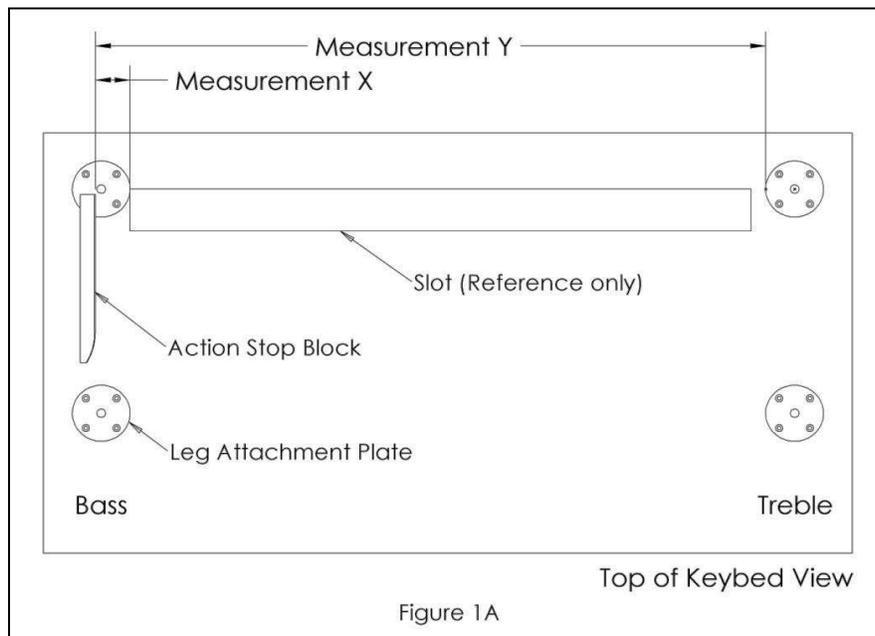
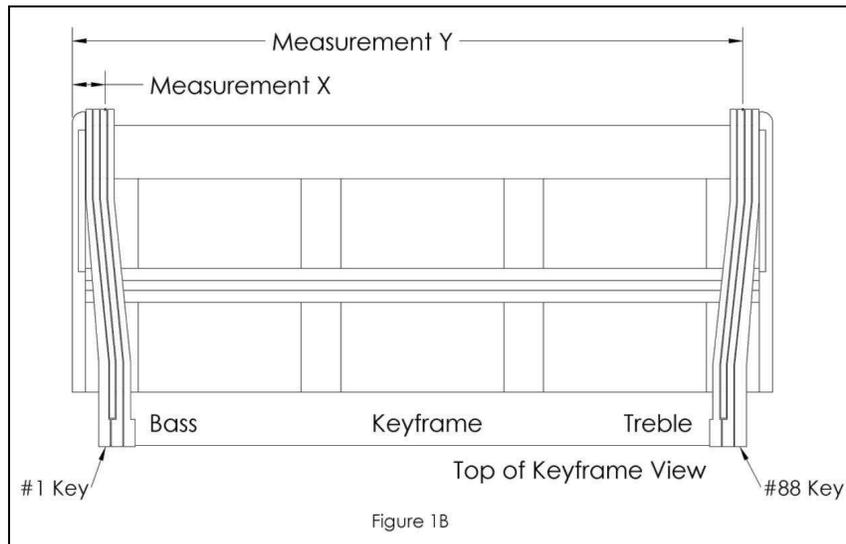

Figure 1A
Figure 1B
- Measure from the Action Stop Block (on bass end) to the treble side of the Leg Bolt Plate. This measurement should be taken parallel to the front of the keybed. This is measurement "X" in Figure 1A. Transfer this measurement to the keyframe. See Figure 1B.
- Measure from the Action Stop Block to the bass side of the treble Leg Bolt Plate. Again this measurement should be taken parallel to the front of the keybed. This is measurement "Y" in Figure 1A. Transfer this measurement to the keyframe. See Figure 1B.